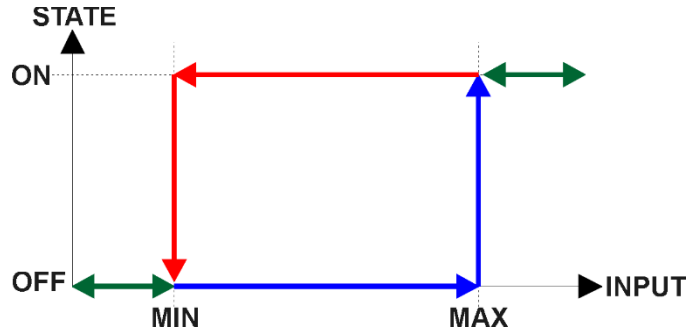

Figure 5 – Analog Input Read as Digital
There is another type of 'digital' input that can be selected when 6112h is set to 20 = Analog On/Off. However, in this case, the input is still configured as an analog input, and therefore the objects from the Analog Input (AI) block are applied instead of those discussed above. (Apply to all the inputs, not only Input 8 to 10 in this case) Here, objects 2010h, 2020h and 2030h are ignored, and 6020h is written as per the logic shown in Figure 5. In this case, the MIN parameter is set by object 7120h **AI Scaling 1 FV**, and the MAX is set by 7122h **AI Scaling 2 FV**.